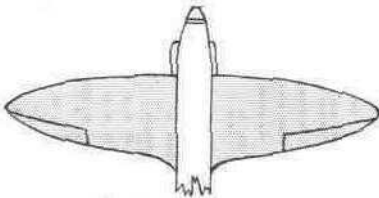

Fig. 21. Elliptical plan
- (g) Of elliptical plan (Fig. 21) Supermarine "Spitfire."